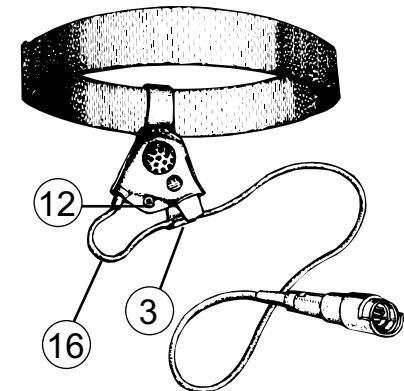

FIGURE 9
Close the pocket using the press-stud (12) (figure 9).